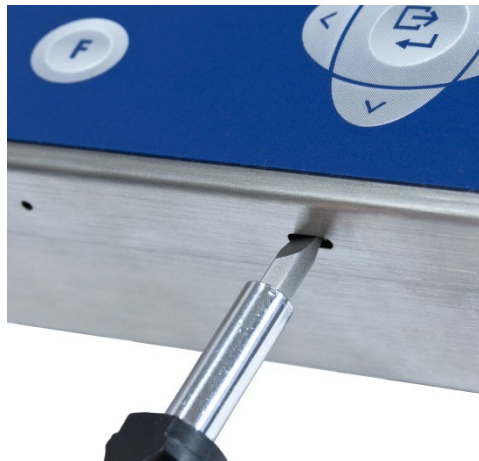

Figure A-1: Opening the Harsh Enclosure
1. Insert the tip of a flat-blade screwdriver into one of the two slots located on the bottom of the front panel assembly (see Figure A-1). While squeezing the front panel and enclosure together, gently push the screwdriver in toward the enclosure. A "pop" sound is made when the cover clip is released.